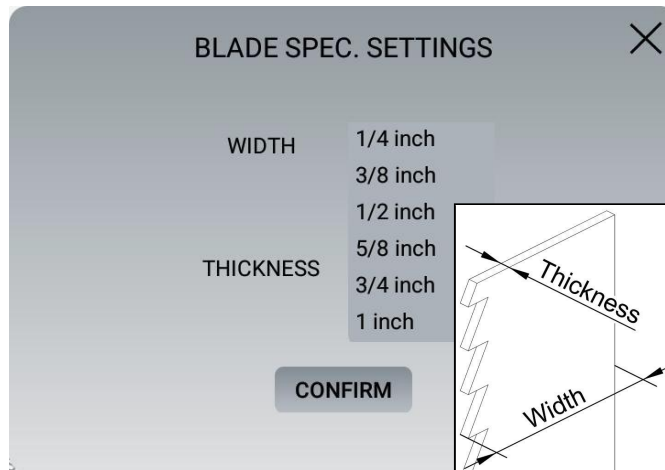

Fig. 8-4
1. Tap the “BLADE SPEC. SETTINGS” button on the display screen (see Fig. 7-3a) to enter the blade preset interface (Fig. 8-4).